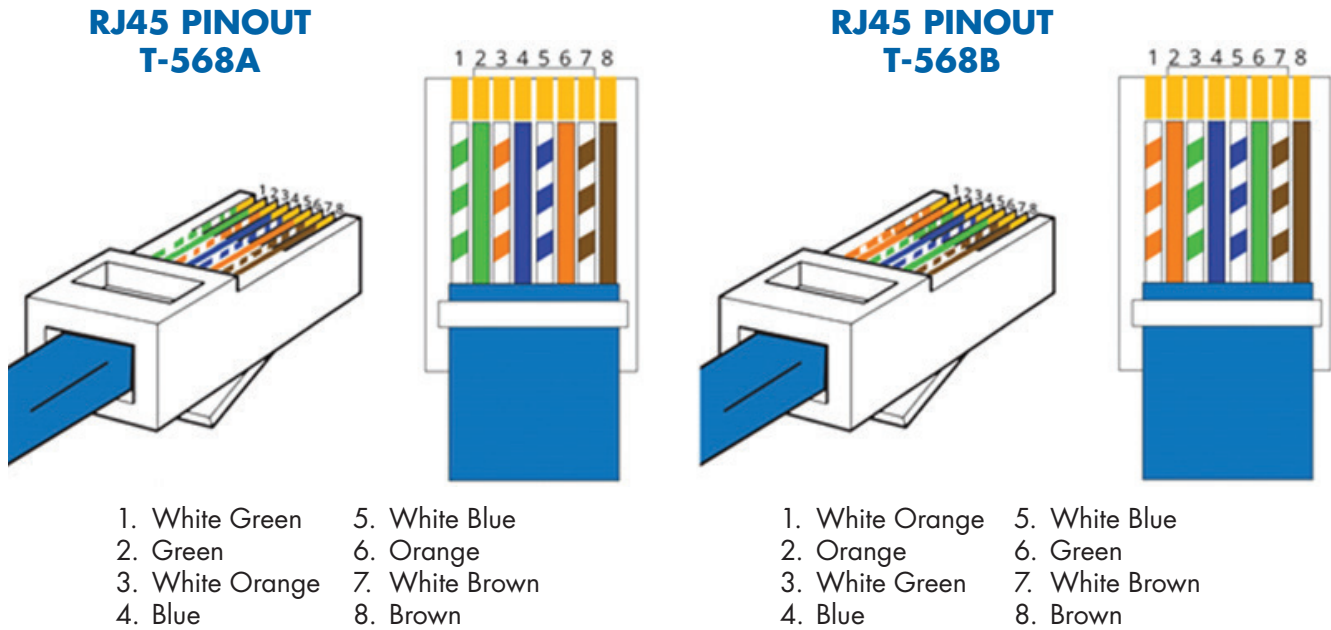

Figure 26. ROP Touch Display
- Use a CAT5 or CAT6 cable. If the cable comes with RJ-45 jacks on both ends – cut one end off; if no jacks attached, attach it one side of the cable, using respective T568 wiring standard (A or B, see Figure 26).
- Connect the cable to ETHERNET/LAN RJ-45 jack (see Figure 26) on the sub-board ("core module")